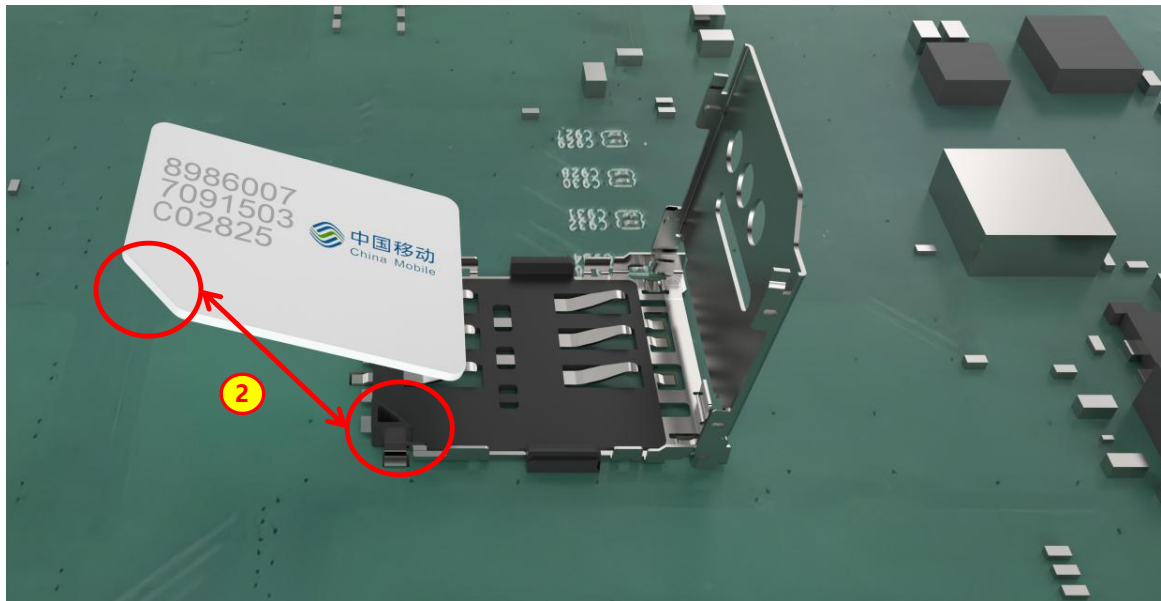

Figure 3-6: Open the Upper Cover of the SIM Slot
Step 2: Open the upper cover of the SIM slot, and orient the SIM card to align with the notch of the SIM slot (See Figure 3-6).